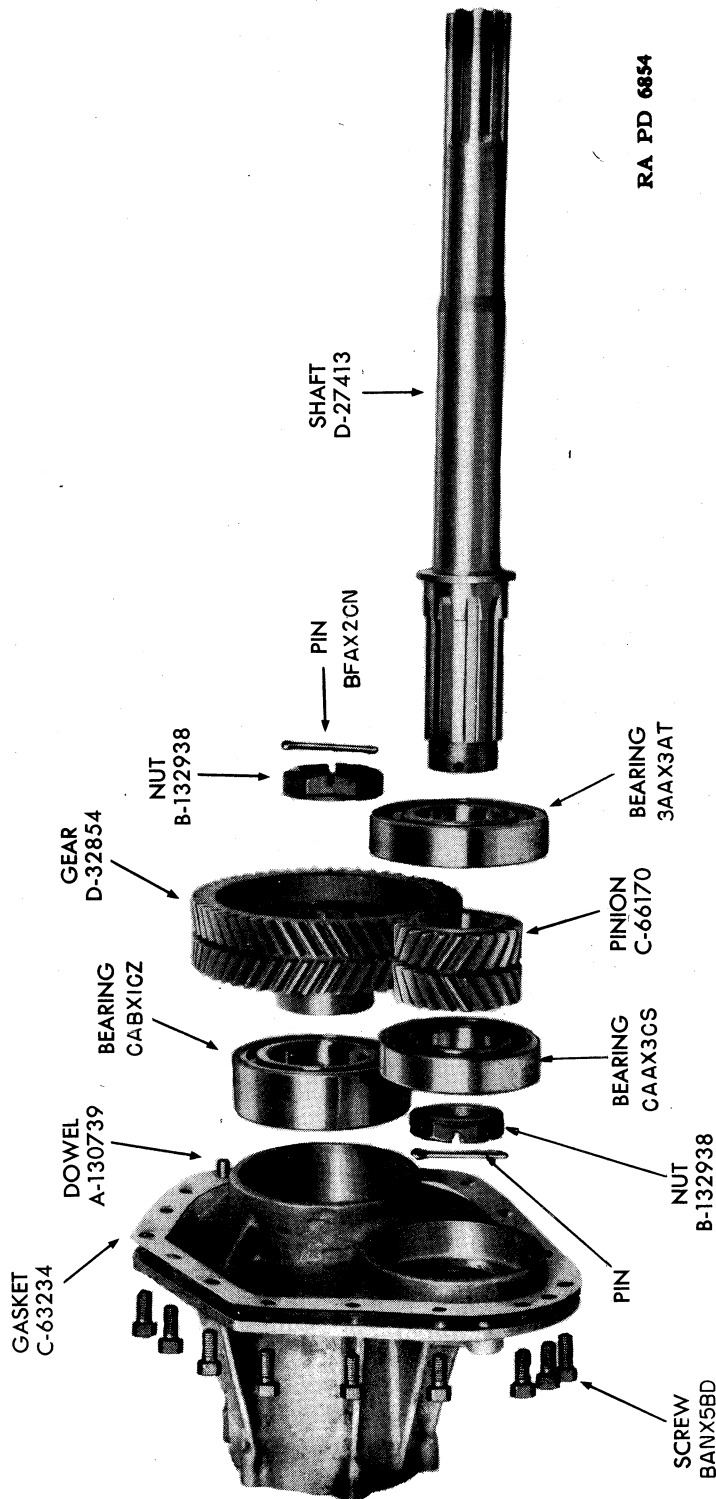

FIGURE 85—Final drive bracket, gears, bearings and pinion shaft.
37. Drive shaft assembly (fig. 85). — a. Inspection. — Clean and inspect inner and outer BEARING (A143816 and A130733) as described in paragraph 25. Inspect PINION (C66170) for fit on spline and for worn, chipped or broken teeth. Replace pinion if unserviceable. Examine both splined ends of drive SHAFT (D27413). If any signs of twisting are present in any part of the shaft, replace the shaft. Slight burs or roughness on the splines can be cleaned up with a small hand grinder. Examine NUT (B132938) and the threaded end of the drive shaft and be sure that threads are clean and in good condition.